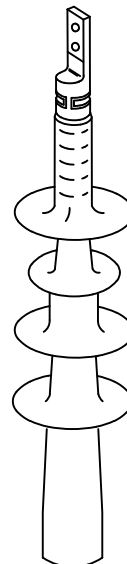

FIGURE 7
- (A) SUPPLIED WITH CABLE TERMINAL KIT.
- (B) FOR USE IN ALL CONTAMINATION DISTRICTS.
- (C) DO NOT USE ON UPSWEEP BRACKETS.
- (D) NON-PORCELAIN TERMINALS ARE REQUIRED IN ALL DISTRICTS, FOR SUBSTATION APPLICATION SEE FIGURE 7 PAGE 4111.1.
- (E) AERIAL LUG NOT REQUIRED.
- (F) FOR 350, 750 AND 1000 KCMIL CABLE POLE TERMINALS, INSTALL THE TOP PORTION OF THE COMPRESSION CONNECTOR IN THE BOTTOM POSITION OF THE 2-BOLT CONNECTOR (AERIAL LUG).